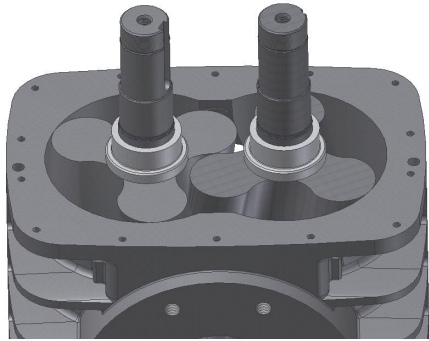

Figure 9-4 – ROTOR INSTALLATION (MECH. SEAL)
16. Thread 3/4-10 eye bolt into gear-end of non-drive rotor shaft. Using a hoist, carefully install non-drive rotor into air cylinder. Orient both rotors to eliminate interference between mechanical seal sleeve of drive rotor and lobe of non-drive rotor. Reference FIGURE 9-4.